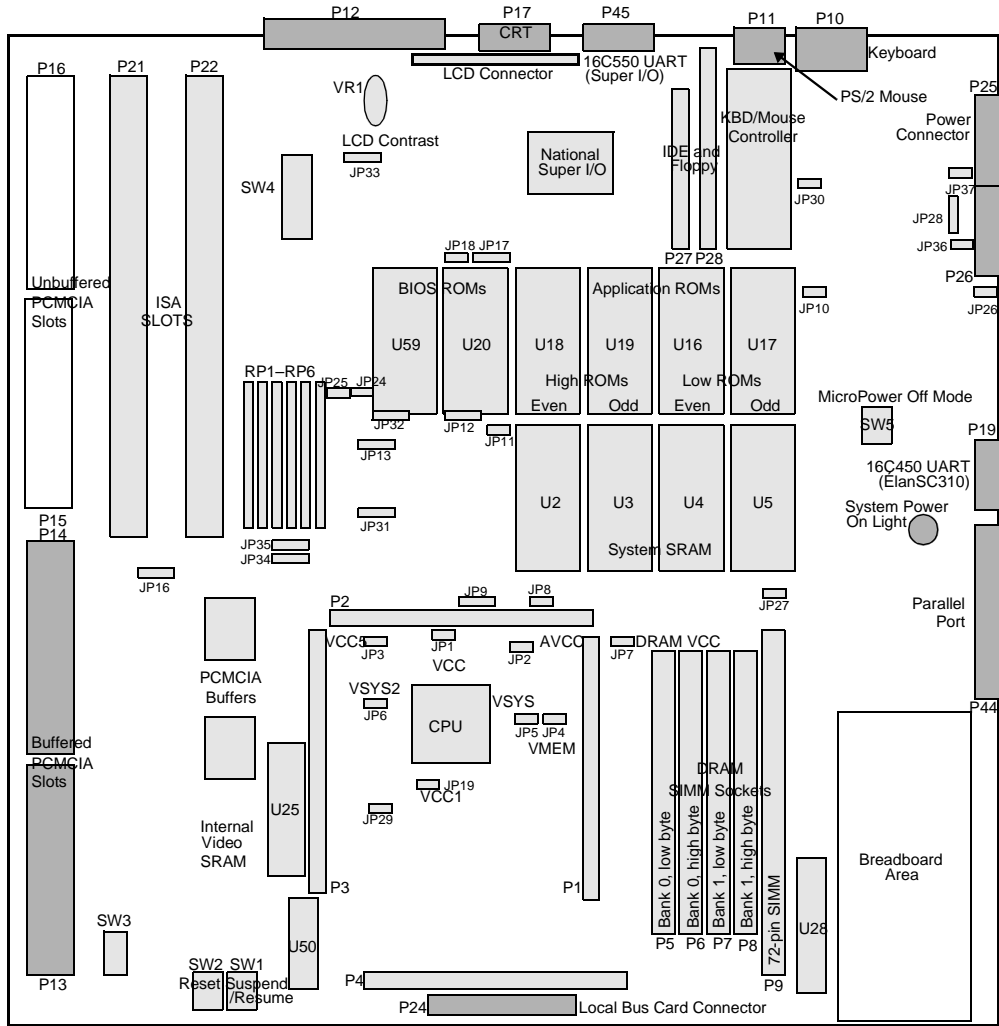

Figure 2-1. ÉlanSC300 Microcontroller Evaluation Board
6. Connect the connectors marked P8 and P9 from the standard PC power supply into the board's power connectors at P25 and P26. P8 connects to P25 (the six pins closest to the corner of the board); P9 to the other six pins. (See Figure 2-1 on page 2-2 for the connector locations.) *Make sure the black ground wires from P8 and P9 meet in the middle of the board's P25 and P26 connectors.*